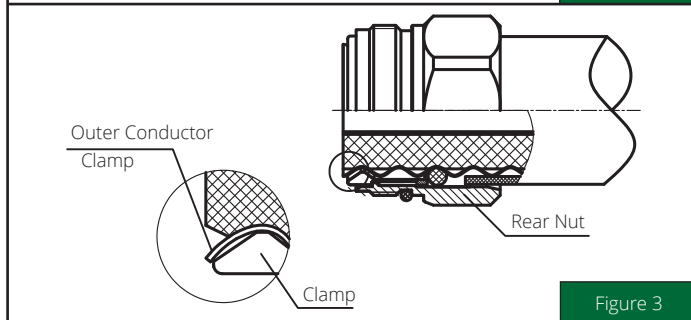

Figure 3
1. Fix the rear nut on the cable so as to be sure that the clamp is in place as shown by adjacent diagram (Figure 3).
2. Then flanging on the cable outer conductor will be carried out to the clamp shown in adjacent diagram (Figure 3).